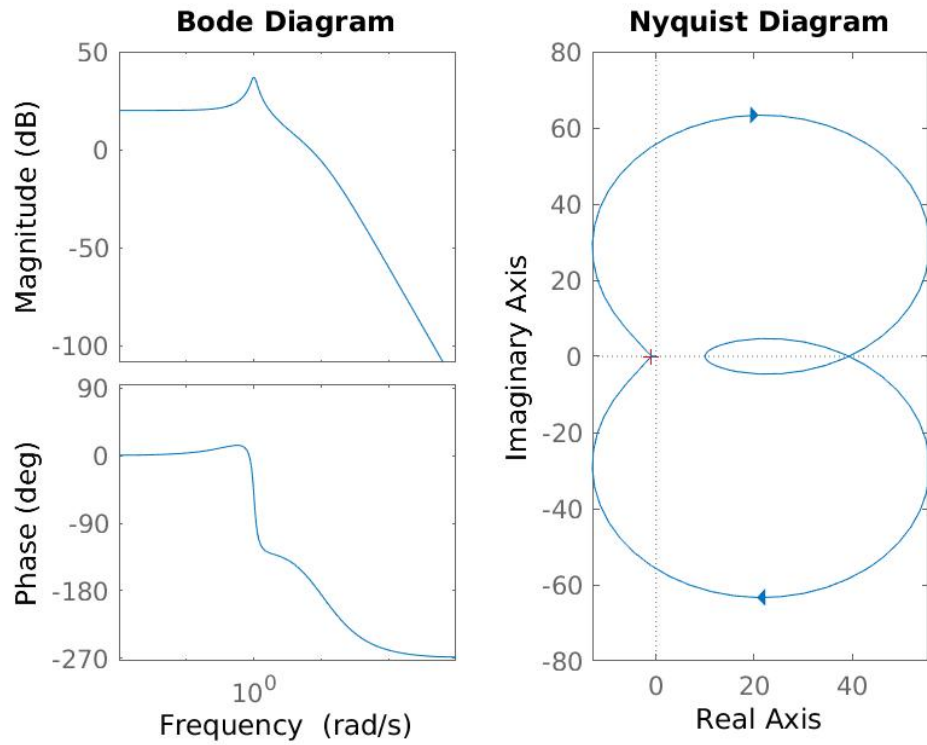

Figure 1: Disk drive transfer function. The gain margin is 1.6047 and the phase margin is 12.9616.
3. The open loop transfer function is $L(s) = P(s)C(s)$. This transfer function can be used directly in MATLAB to plot the Bode and Nyquist plots. See attached MATLAB code for the Bode and Nyquist plots, as well as the computation of the gain and phase margins. Figure 1 shows the Bode and Nyquist plots from MATLAB for the disk drive transfer function $P(s)C(s)$ where